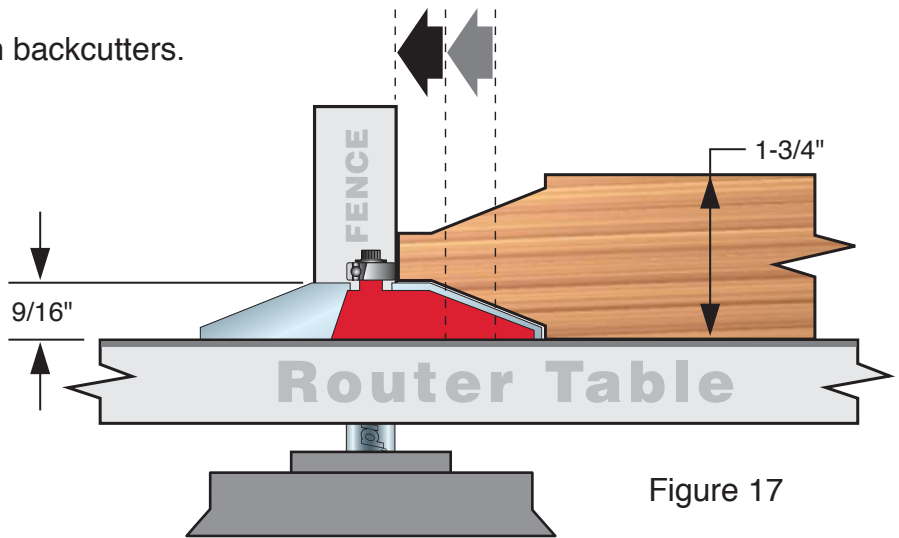

Figure 17
- Set the cutter height. For 1-3/4" thick panels, set the bit so the top of the cutting edge is 9/16" above the router table, as shown in Figure 17. For 1-3/8" thick panels, set the bit height so the top of the cutting edge is 1/2" above the router table.